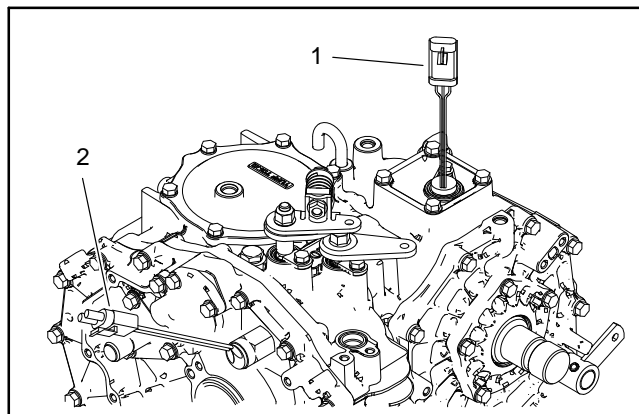

Figure 12
5. Unplug speed sensor and neutral switch at machine wire harness connector (Fig. 12).